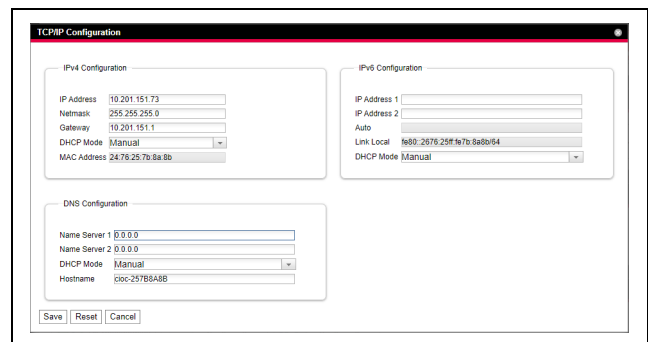

Fig. 24: Adjusting the TCP/IP settings
- In the **TCP/IP Configuration** window, change the device's IP address in the **IPv4 Configuration** group box to an address permitted in the network (fig. 24).